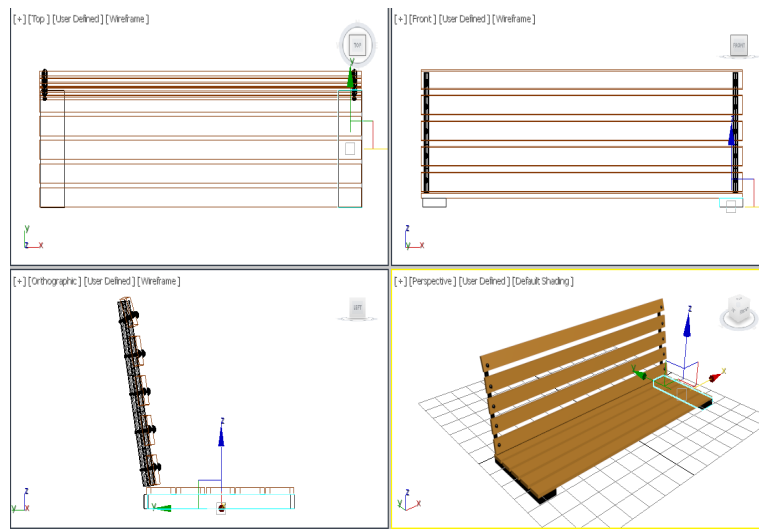

Figure 2-88 Alignment of leg support002 with horizontal seat support
7. Choose the **Select and Move** tool and align *leg support002* to *horizontal seat support* in all viewports, as shown in Figure 2-88.